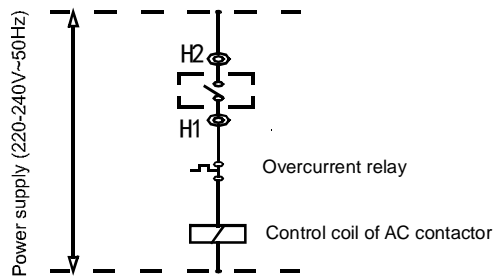

Fig.5-2
Step 10. Connection of control wires of auxiliary electric heaters: the control wires of AC contactor of the auxiliary electric heater must pass the connection terminals H1 and H2 of the main unit, as shown in Fig. 5-2.